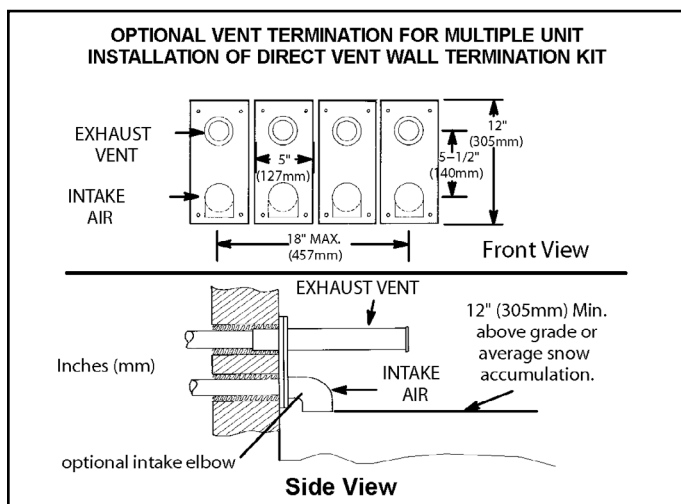

Figure 41.
8. A multiple furnace installation may use a group of up to four terminations assembled together horizontally, as shown in Figure 41.